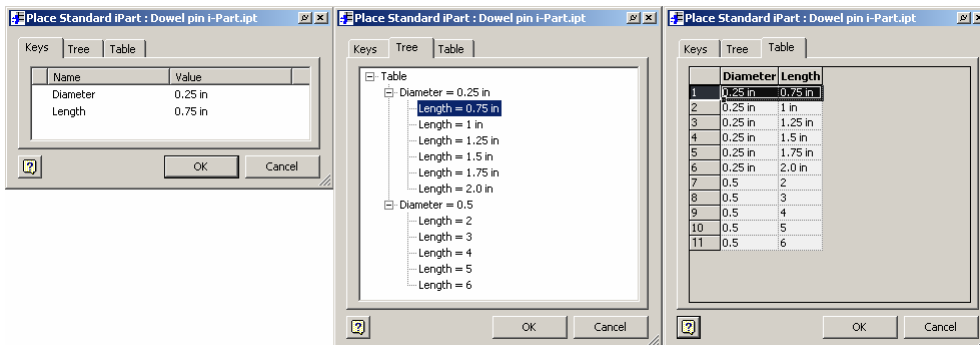

Figure 6: The three tabs of the Place Standard iPart dialogue box.
9. Now comes the difference from placing a normal component. An iPart factory brings up a dialog box showing the part variants that are available. Figure 6 shows all three tabs.
No problem. Each child placed in the assembly contains the iPart table. Click on the + sign beside any iPart child instance in the browser, then right-click on the Table entry that appears. Click on Change Component, and the Place Standard iPart dialog box of figure 6 reappears. Make your selection, click OK, and you are done. The one instance updates, and all existing assembly constraints remain connected.